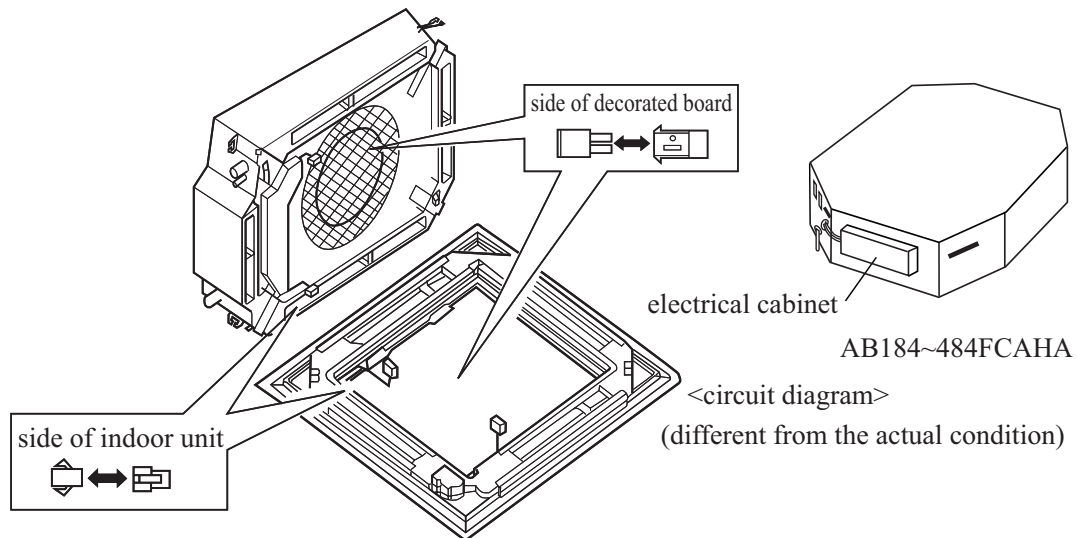

Fig.5
- a. Connect it to the connector of the wind deflector motor lead on the decorated board (Fig. 5);